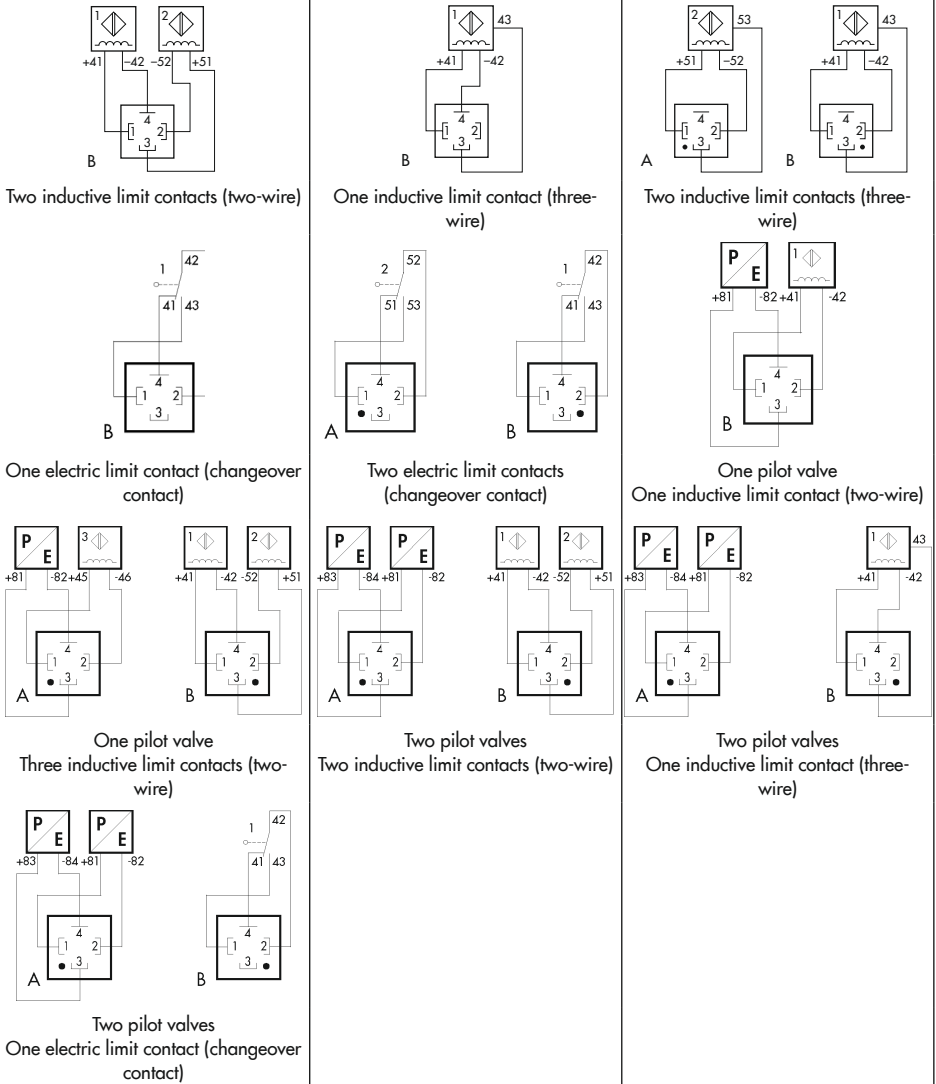

Fig. 11: Wiring plans for maximum equipping options
- Wiring plans for plug connectors according to EN 175301-803 (Fig. 11)